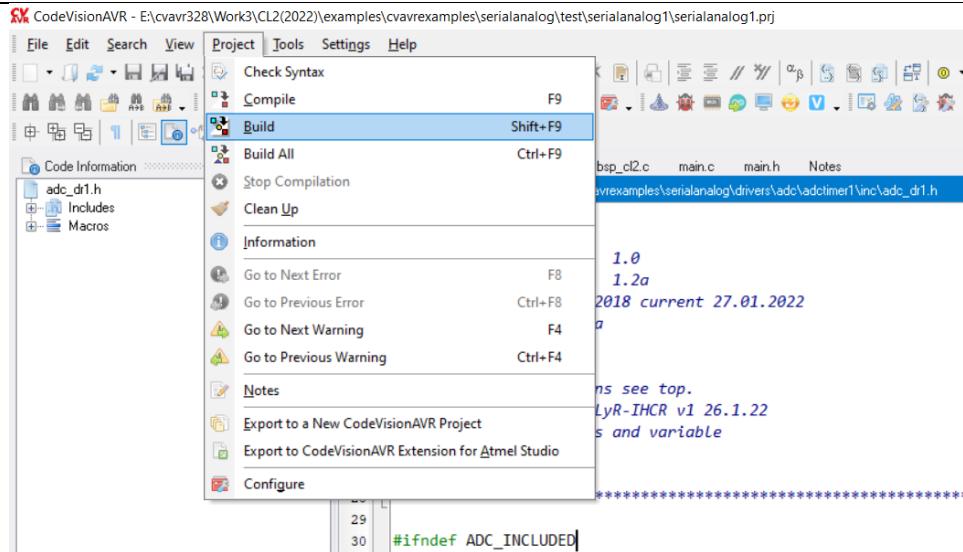
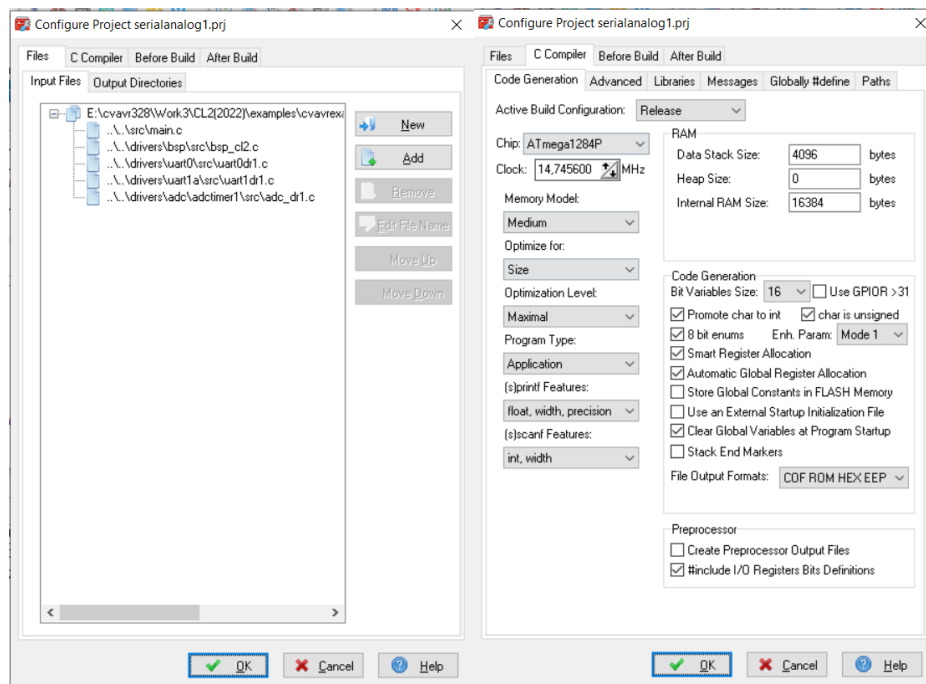

Figure 17 – Example 2 serialanalog project and building option
Figure 18 – Example 2 serialanalog project and building option
3.b.3 Opening, compiling and building /serialanalog with CodeVision AVR: Open the serialanalog1.prj within the downloaded repository example, in /serialanalog/test/serialanalog1, which should give a screen similar to that shown in Figure 17. The configuration is shown in Figure 18 and is similar to Example 1 but with the addition of the new driver files.